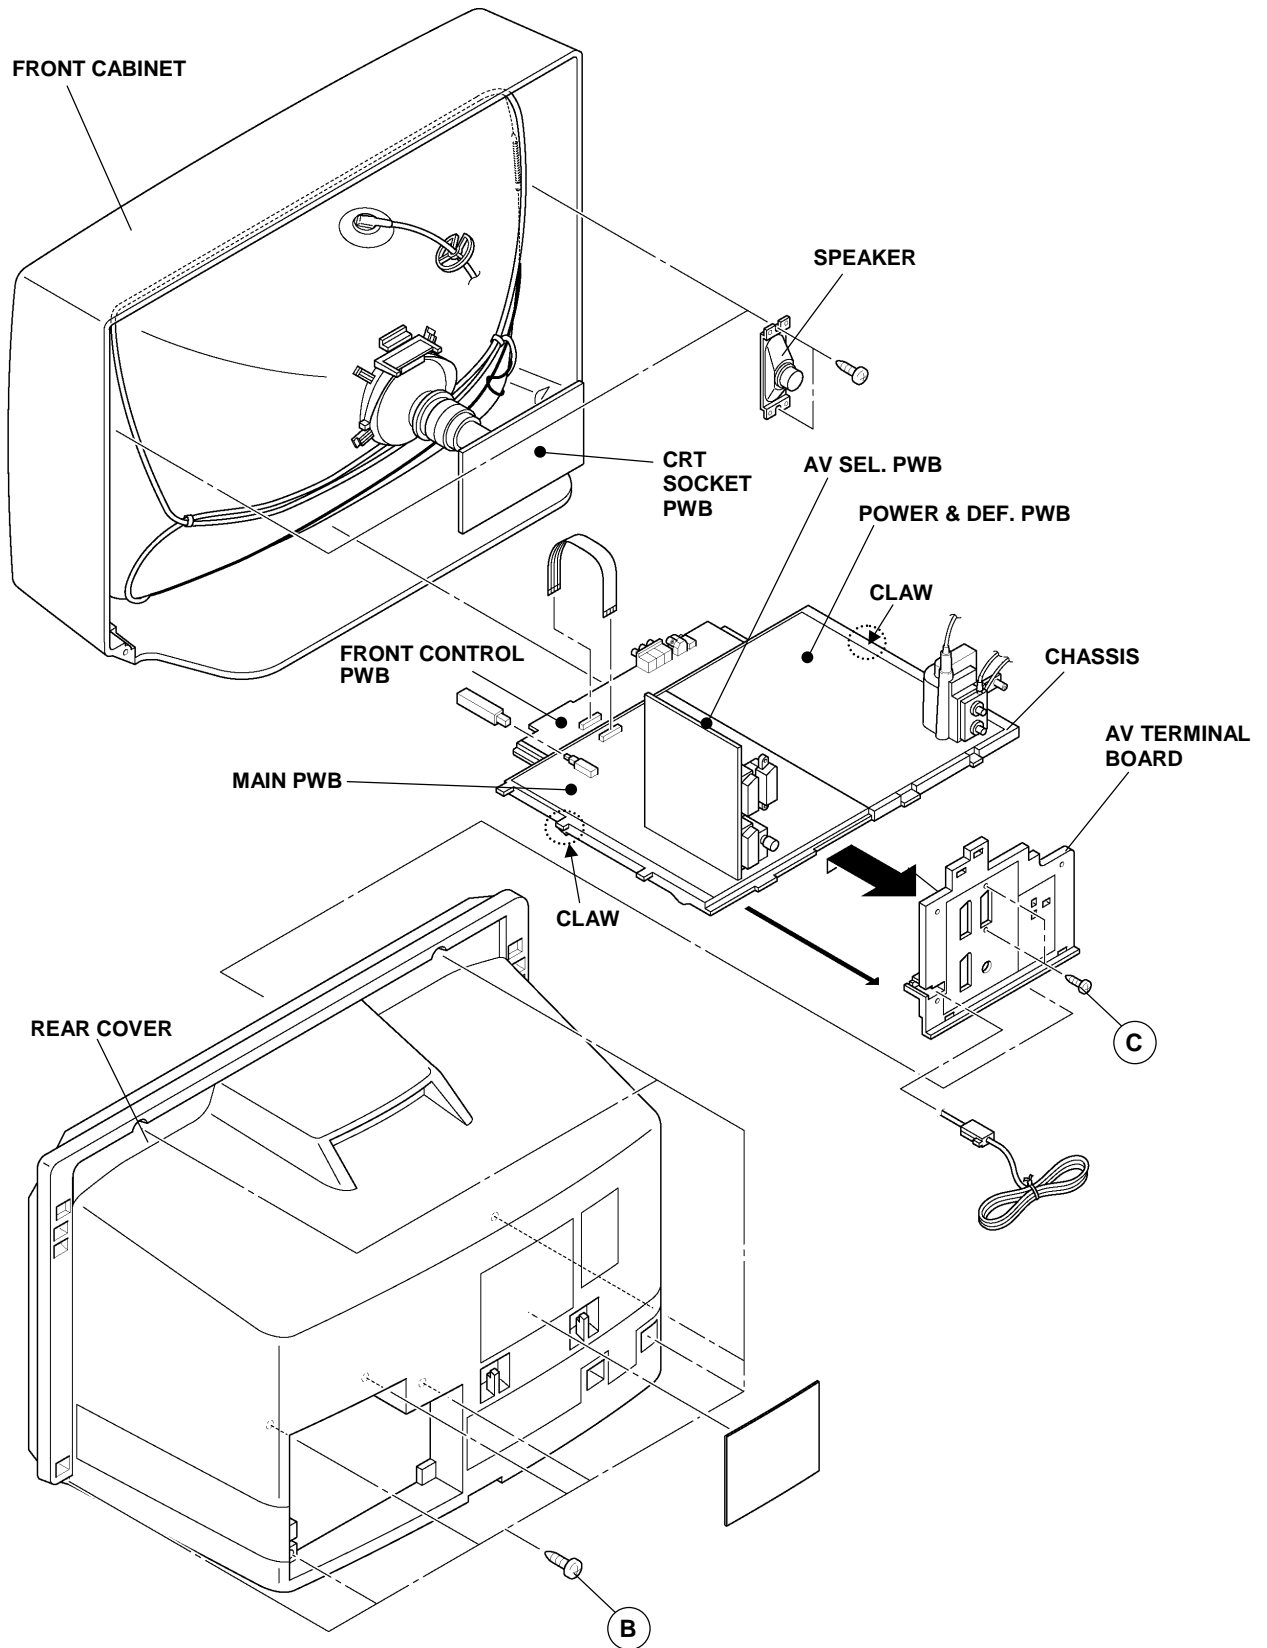

Fig. 3
2. Remove the 9 screws marked "A" as shown in the Fig. 3.
1. Remove the 2 screws marked "B" as shown in the Fig. 3.
1. Remove the 2 screws marked "F" as shown in Fig. 3.